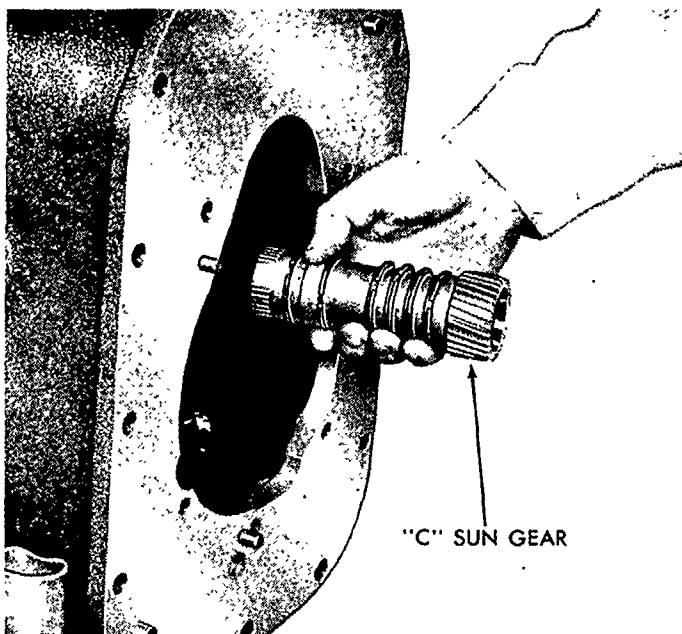

Figure 80
16. Install the six shaft seals on the "C" sun gear. Use petroleum jelly to center the seals. Insert the gear into the distributor so the splines align with the clutch 1 housing splines. See Figure 80. Install the thrust washer on the distributor rear journal.